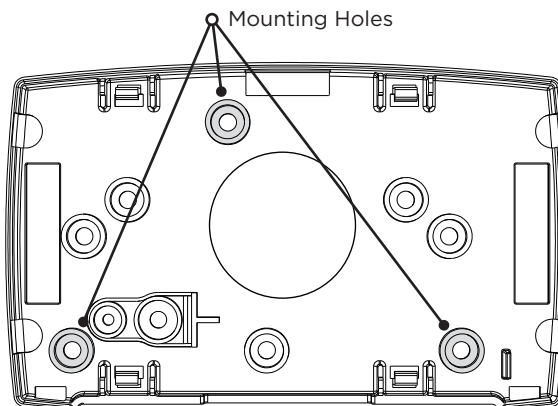

Figure 3: 738ZplusINT Housing with Mounting Holes
2. Use the supplied screws to secure the 738ZplusINT housing against a wall or flat surface. See Figure 3.